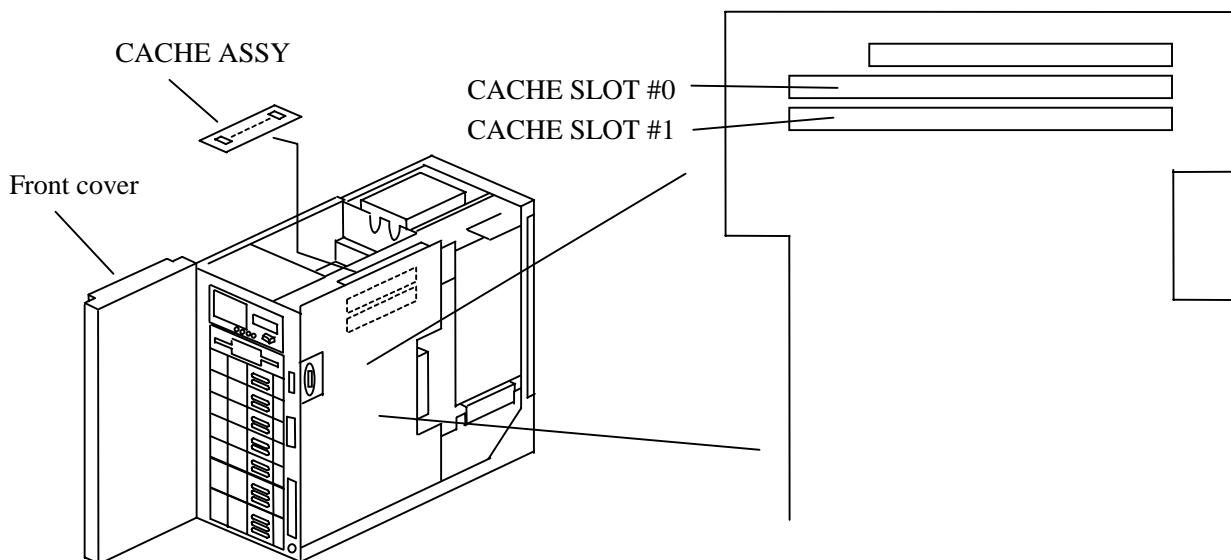

Figure 4.4.5 Installing a CACHE ASSY
(3) Installing a CACHE ASSY (See Figure 4.4.5)